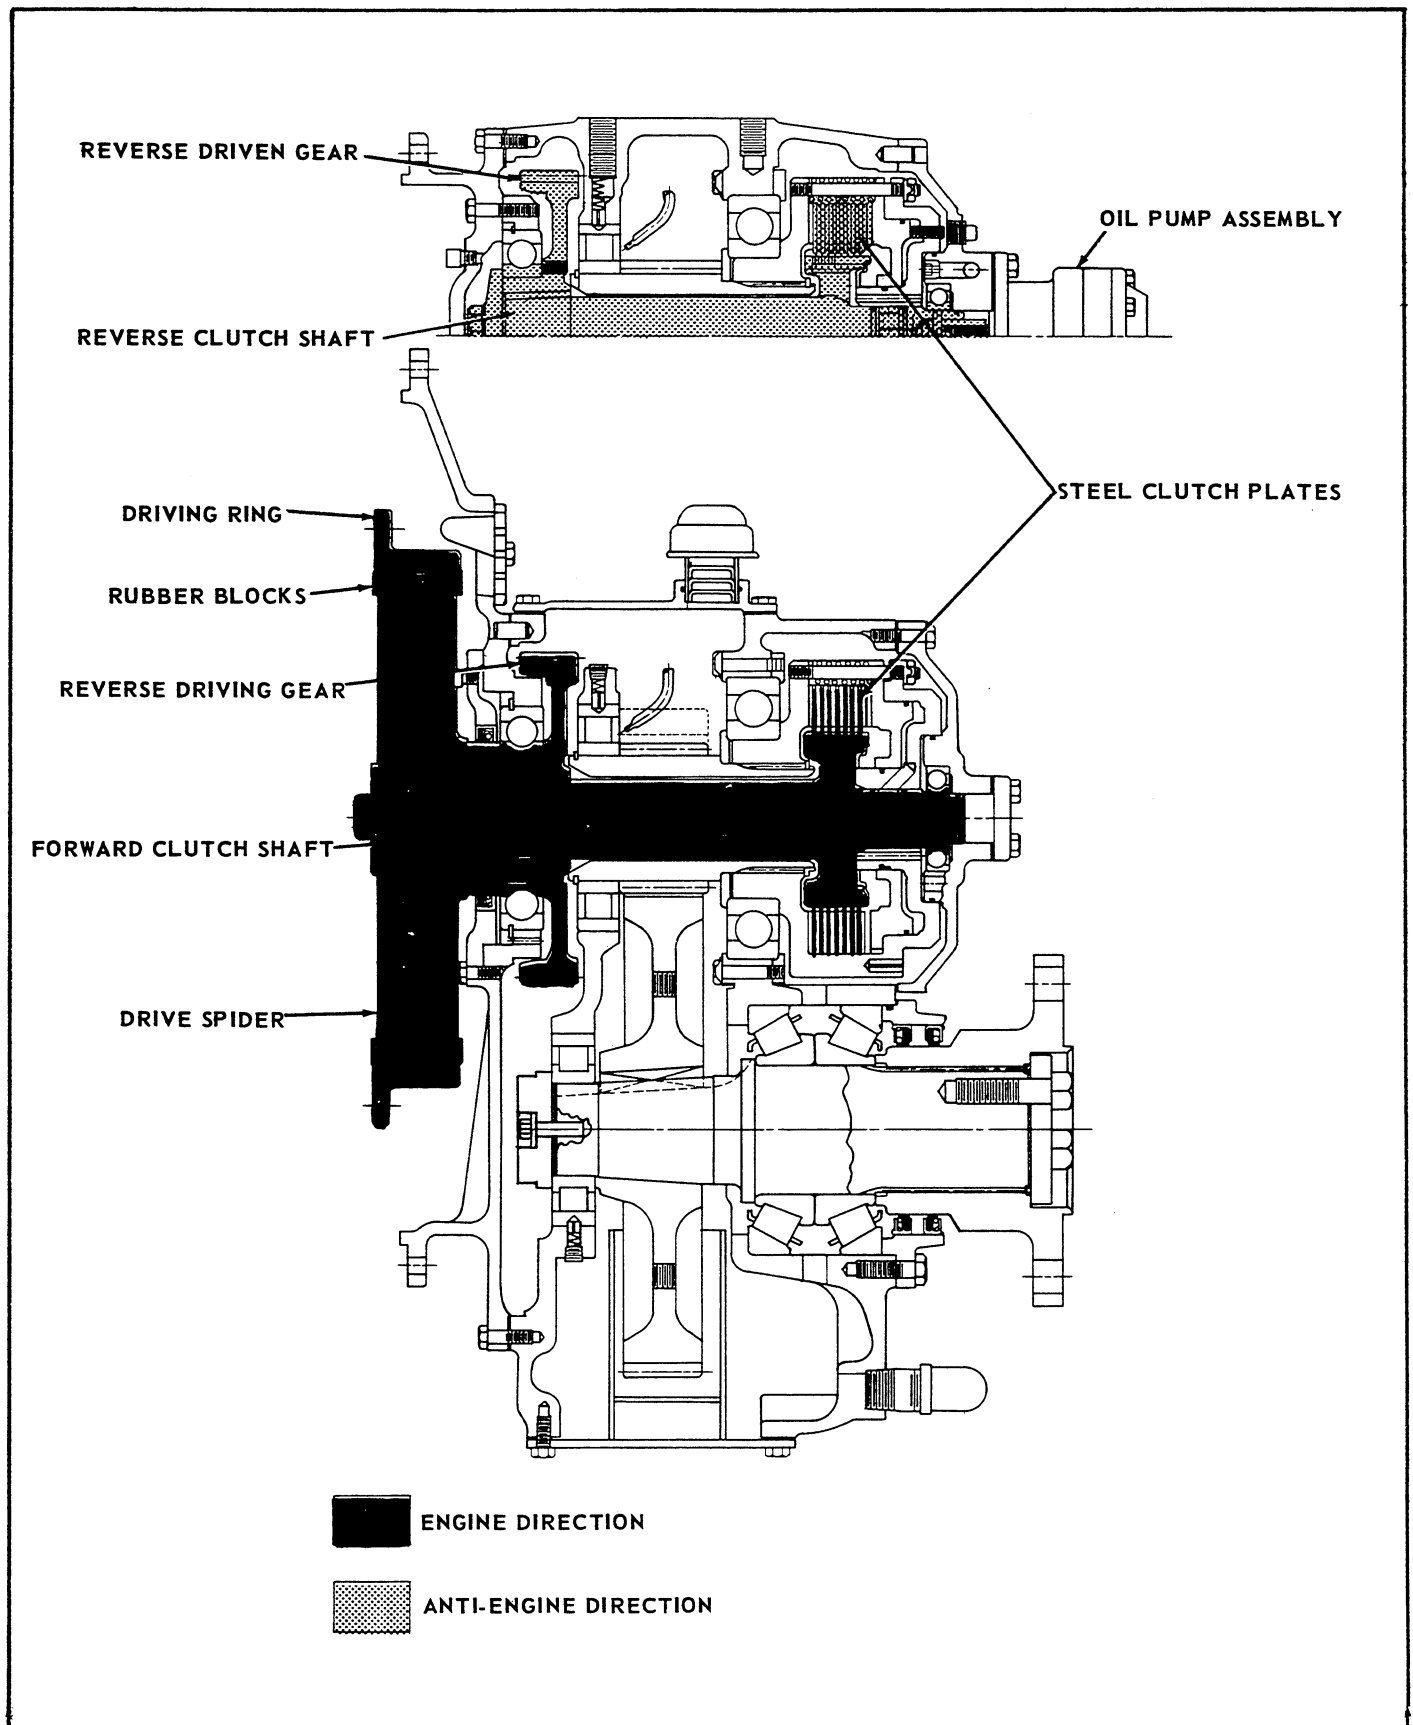

Figure 6. MG-514 Marine Gear Power Flow – Neutral.
A. Neutral (Fig. 6). When in neutral, all parts that rotate in the marine gear turn at engine speed. The driving ring that is bolted to the engine flywheel is the connecting member between the engine and the marine gear. The rubber blocks installed on the drive spider are meshed in the driving ring. The drive spider is spline-connected to the forward clutch shaft. The gear teeth of the steel clutch plates are meshed with the external gear teeth of the forward clutch shaft. Therefore, the steel clutch plates of the forward clutch rotate in engine direction at engine speed. The reverse driving gear is keyed on the taper of the forward clutch shaft. The reverse driving gear meshes with the reverse driven gear which is keyed